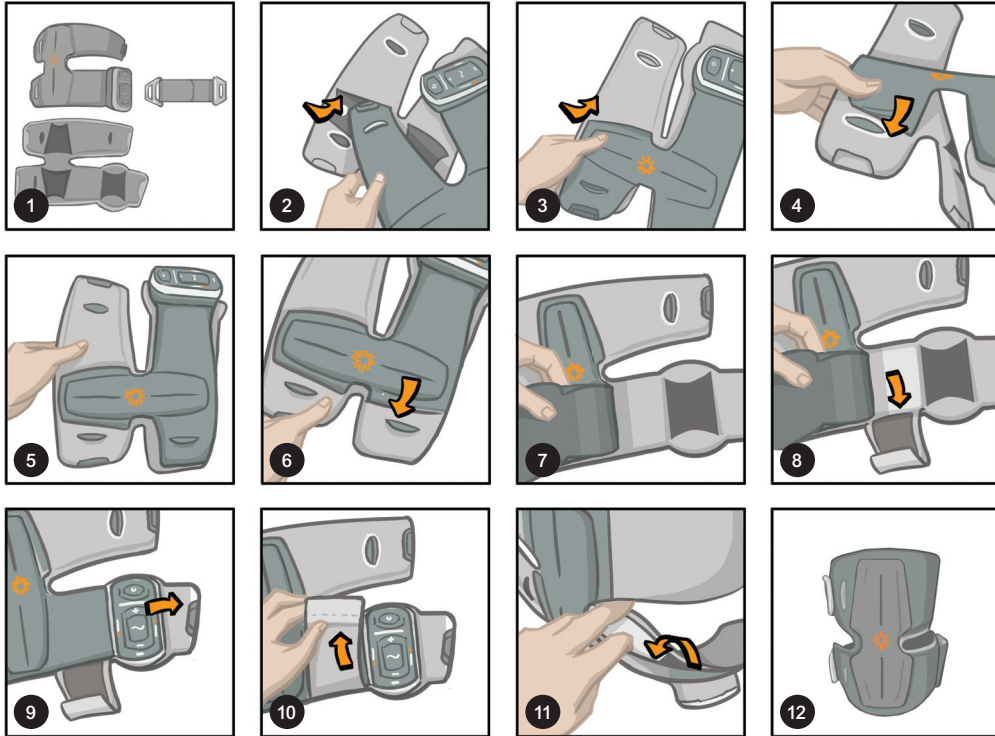

Figure 8-15: Attaching the Home Use Thigh Cuff Cover
1. Insert the upper Thigh Cuff panel into the cover first and then attach the Velcro pocket around the bottom panel. See Figure 8-15.